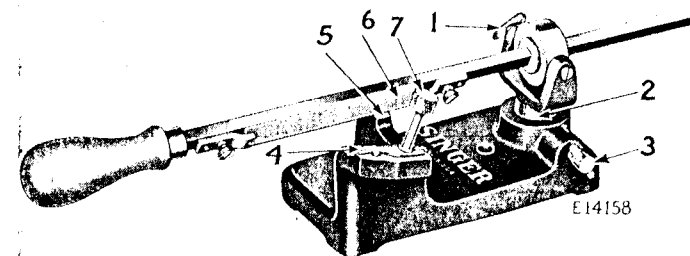

Fig. 29. Knife Hone Set at Proper Angle
To set the hone at the proper angle, loosen the wing screw (1, Fig. 29), rest the stone (6, Fig. 29) on the flat of the leveling surface (5, Fig. 29), then tighten the wing screw.
Loosen the adjusting screw (3, Fig. 29), raise or lower the guide yoke (2, Fig. 29) to get the bevel desired on the knife (4, Fig. 29), then securely tighten the adjusting screw (3).
Loosen screw (7, Fig. 29) and slide knife (4) into position as shown in Fig. 29, then tighten screw (7).